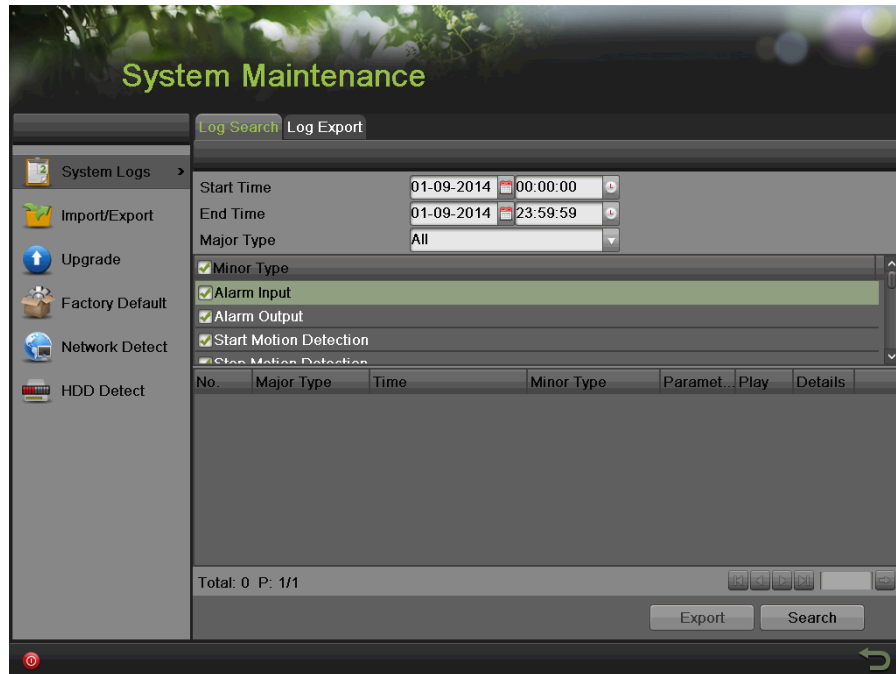

Figure 166 System Logs Menu
1. Enter the System Logs menu, shown in Figure 166 by going to Menu > Maintenance > System Logs.